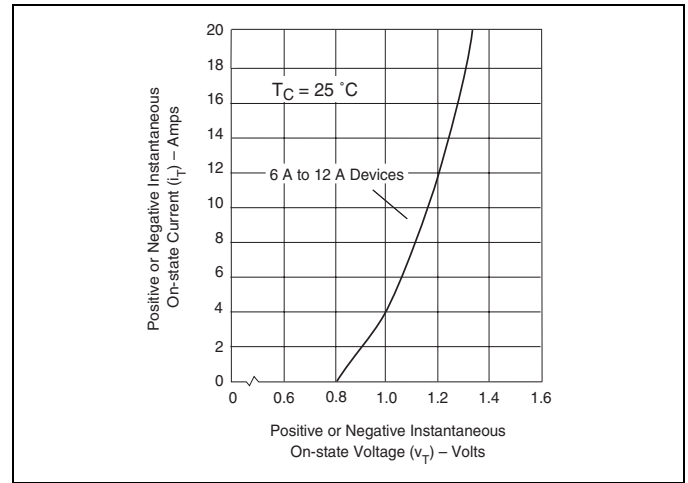
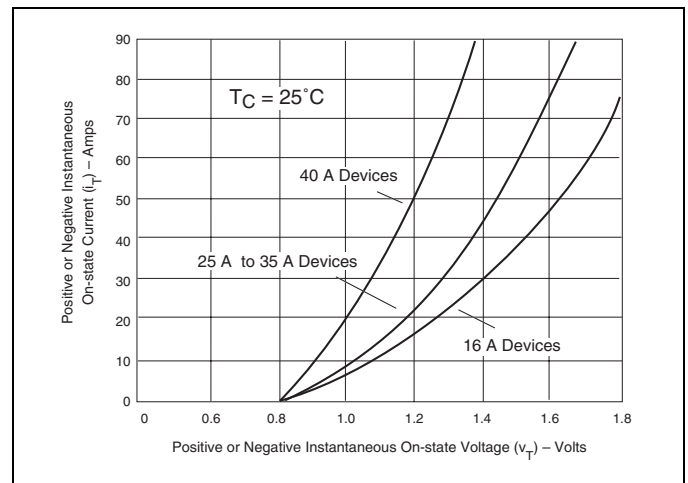

Figure E4.5 On-state Current versus On-state Voltage (Typical) (6 A to 12 A)
Figure E4.6 On-state Current versus On-state Voltage (Typical) (16 A to 40 A)
- (5) See Figure E4.5 and Figure E4.6 for IT and VT.